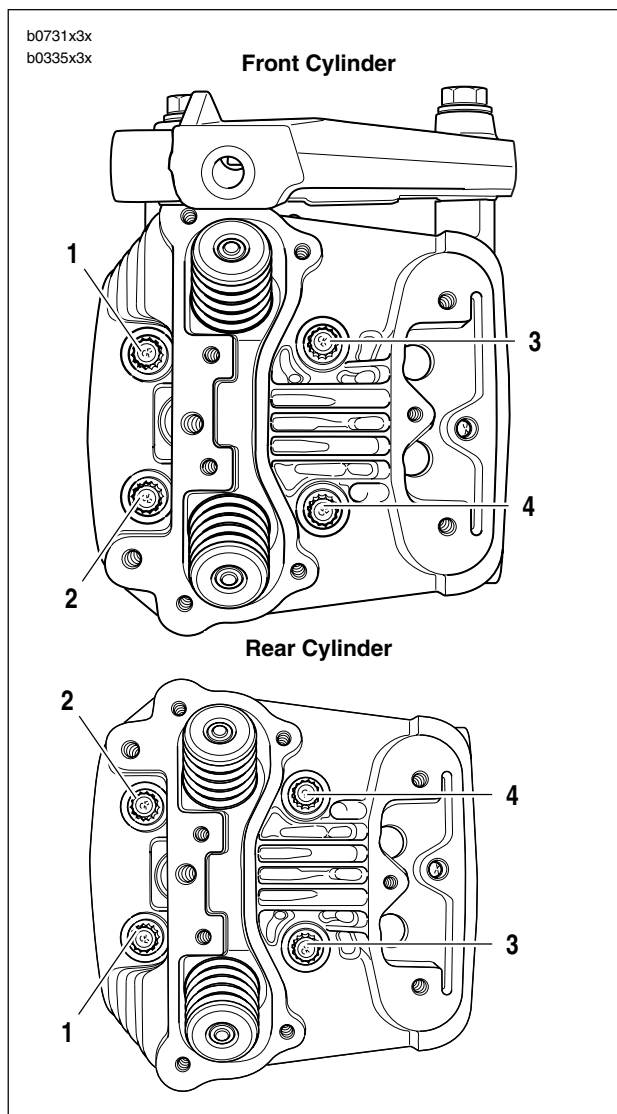

Figure 3-8. Head Screw Loosening/Tightening Sequence
Distortion to the head, cylinder and crankcase studs may result if head screws are not loosened (or tightened) gradually in the sequence shown in Figure 3-8.
9. See Figure 3-8. Loosen each head screw 1/8-turn following the sequence shown.